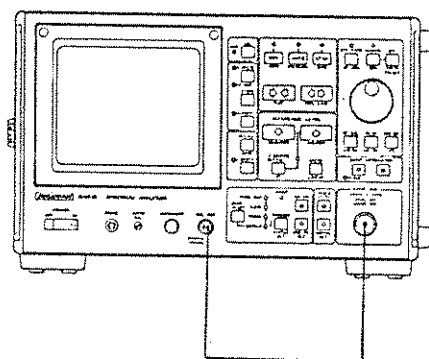

Figure 11-15 Resolution Bandwidth Switching Accuracy Test Setup
② Connect the CAL input to the INPUT connector. (See Figure 11-15.)
③ Set the span to 2 MHz, while turning the TUNING dial to center the waveform on the display screen.
④ Pressing the RBW switch, set the resolution bandwidth to 300 kHz.